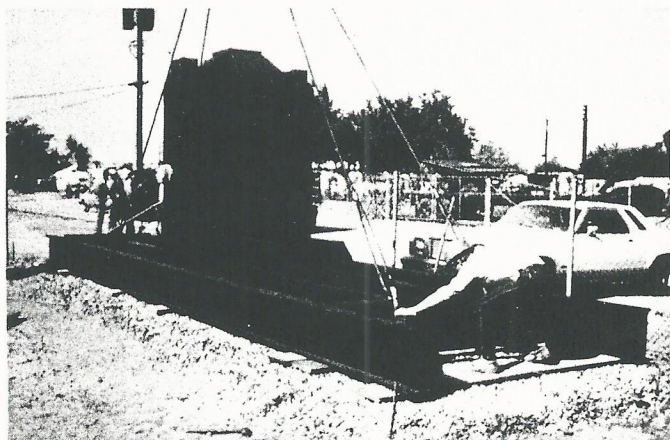

Figure 4 — Positioning front crossmember on marked lateral line.
4. Place front crossmember of base on marked lateral line and gently release weight of unit (Fig. 4).